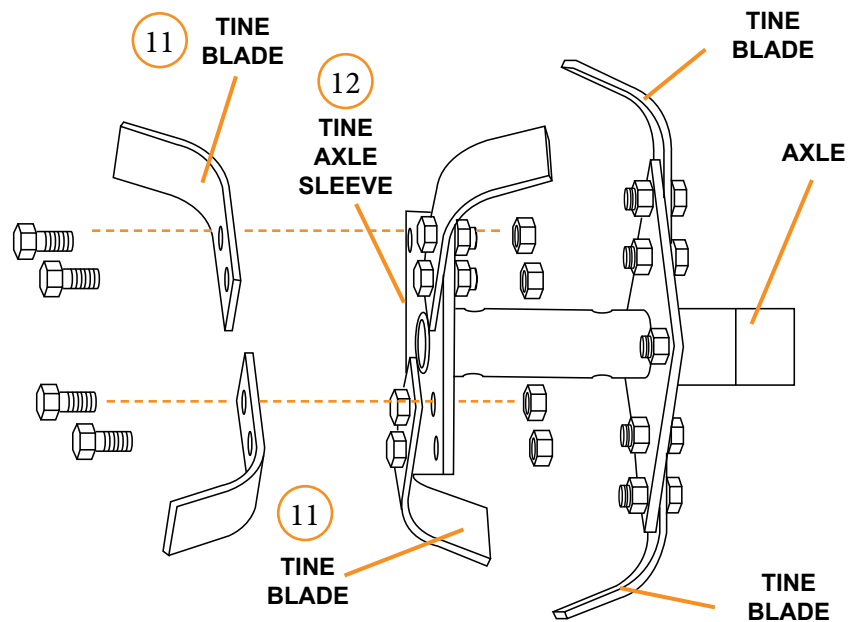

Figure 1
1. Attach tine blades to the tine axle sleeve with a hex nut and hex bolt (see Figure 1). Blades should alternate direction diagonally, one pair facing in, one pair facing out on each sleeve.